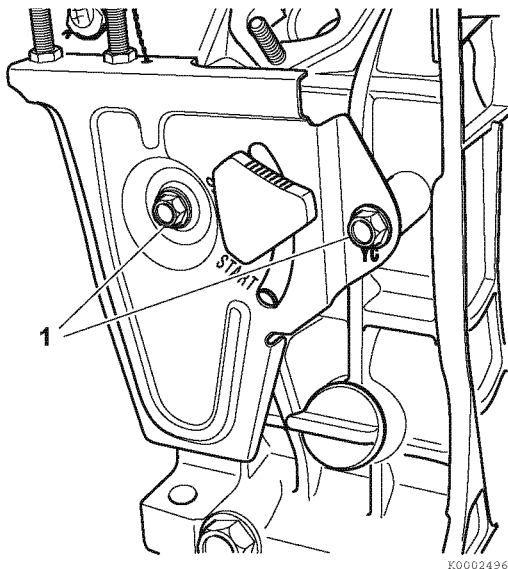

Figure 6-79
1. Remove the bolts (1, **Figure 6-79**) that retain the speed control assembly.